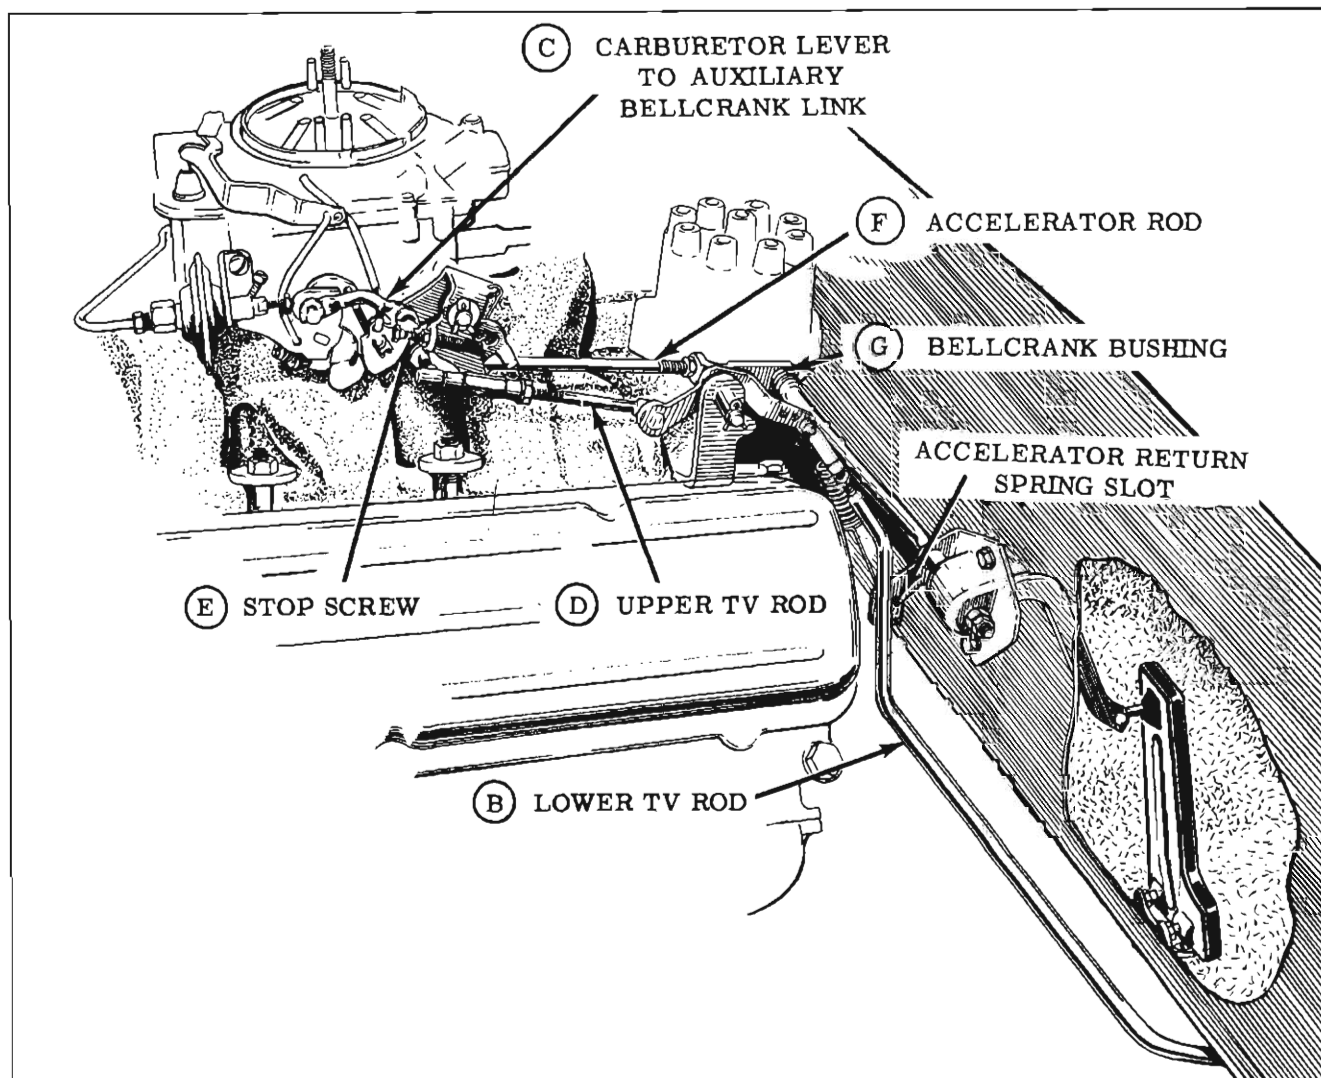

Fig. 6-124 Throttle Linkage Adjustment
THROTTLE LINKAGE ADJUSTMENTS (Fig. 6-124)
2. Adjust Lower T.V. Rod (B, Fig. 6-124)
3. Adjust Carburetor Lever to Auxiliary Bellcrank Link (C, Fig. 6-124)
4. Adjust Upper T.V. Rod (D, Fig. 6-124)
6. Adjust Throttle Downshift Stop Screw (E, Fig. 6-124)